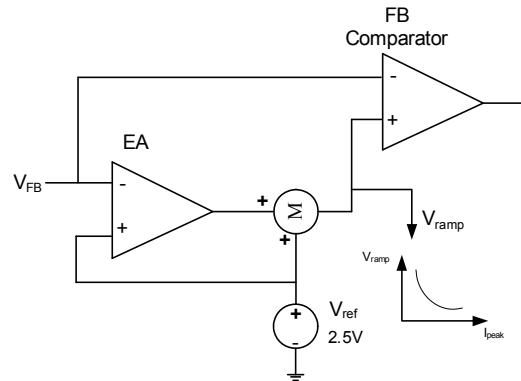

Figure 5: EA and Ramp Compensation
The MP156 features error amplifier (EA) compensation function (Shown in Figure 5) to improve load regulation. 6 μs after the MOSFET turns off, the MP156 samples the feedback voltage. Thus EA compensation regulates the 2.5V reference voltage with the load to improve overall power regulation.